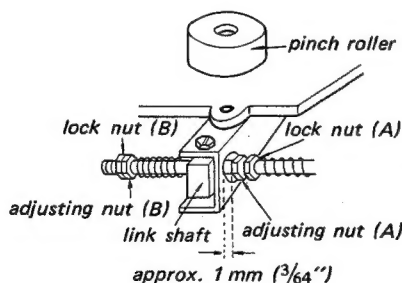

Fig. 3-1-4. Pinch roller pressure adjustment (1)
See Fig. 3-1-4 and 3-1-5. This adjustment should be made after the Reset Spring Housing Adjustment.
- (1) Remove the Reel Panel.
- (2) Set the unit to the play mode.
- (3) Adjust the adjusting nut (A) for 1 mm ( $\frac{3}{64}$ "") clearance between the Link Shaft and the adjusting nut (A). See Fig. 3-1-4.